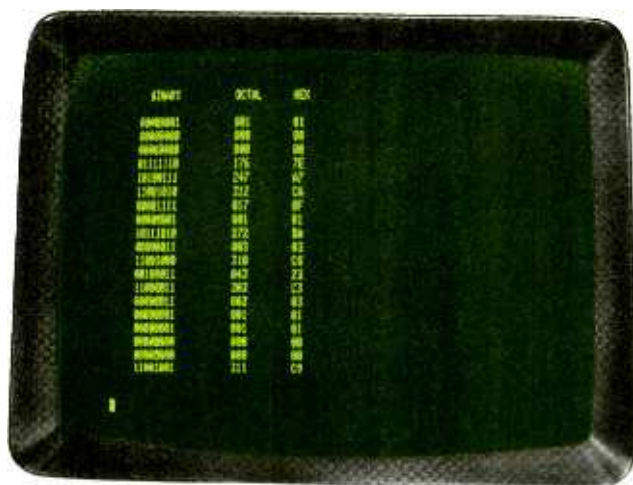

Fig. 1. A short program in three numbering systems: binary, octal and hexadecimal.
**M**ODERN computers permit direct access to the microprocessor through an operating program called a Monitor. The program is usually stored in Read Only Memory (ROM) and starts to run as soon as the computer power is turned on. Since it is more difficult to work with strings of binary numbers, it has become common practice to shorten the machine codes by using octal notation (base 8) or hexadecimal notation (base 16). Figure 1 shows a short program in binary, octal, and hexadecimal notations.
In the example, taken from Fig. 1, the Operand is from the Intel 8080 instruction set, where LXI means Load Immediate. The arguments B,0 indicate that the register pair BC are to be loaded with zero. Sometimes, when the value of an argument is not known, a symbolic expression is used to represent it. The label field is optional and represents the location of the memory address of the instruction (which may be unknown), and which will change from application to application. In addition, each Assembler will have a set of pseudo-ops which do not produce machine code. The pseudo-op replaces the instruction mnemonic in the operand field. For example, the pseudo-op ORG (origin) tells the assembler that the program starts at a given location, e.g., ORG 100H (where H stands for hexadecimal).